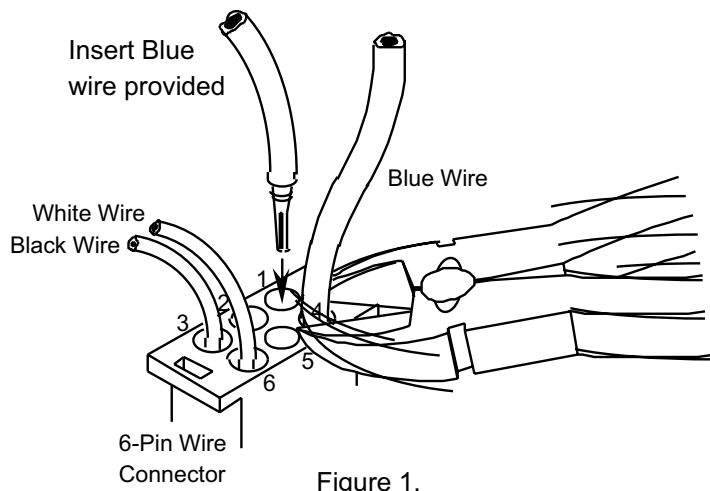

Figure 1.
5. Disconnect the 6-pin connector plug. Using an AMP extractor tool #458994-2 (NORDYNE #799092) remove the blue wire from socket position #4 and install it in position #1. (See Figure 1). If the tool is not available proceed as follows:
Cut off the blue wire at socket position #4 in the connector, as illustrated in Figure 1, and strip the insulation back 3/8". Plug the length of blue wire provided into socket position #1, next to the cut wire stub. Reconnect the 6-pin connector plug. Connect the loose ends of the blue wires using the wire nut provided, as shown in Figure 2. Tape the wire nut connection with electricians tape.